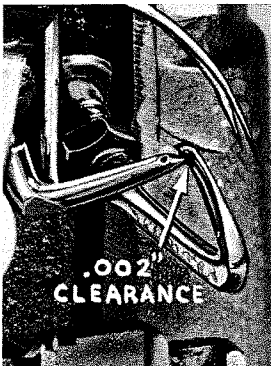
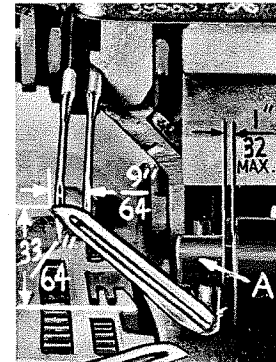

Fig. 9
Fig. 10
By adjusting looper holder in or out of upper looper shaft and by turning the looper around its shank, set upper looper point to cross lower looper to the left of the lower looper eye with 0.002 to 0.004 clearance (Fig. 9).
Next, turn the handwheel until upper looper is at the left end of its travel. Check dimensions of upper looper point with respect to the right needle and throat plate (Fig. 10). If resetting is necessary, do it by moving the upper looper holder (A, Fig. 10). Figure 10 represents the dimensional setting.
Dimension  $33/64$  inch is increased by turning upper looper holder counter-clockwise looking from left end of machine. Dimension  $9/64$  inch is increased by pulling upper looper holder left, out of the upper looper shaft. A maximum dimension of  $1/32$  inch (Fig. 10) should be maintained between the upper looper holder and the upper looper shaft. After these changes are made, it may be necessary to turn the upper looper around its shank slightly to maintain the condition shown in Fig. 9.
Check setting to avoid interference between upper looper and needle on needle downstroke. If needle rubs the back of upper looper, pull looper out of its holder slightly and rotate looper a short distance counter-clockwise, looking from left end of machine. Reset to maintain dimensions of Fig. 9, 10, 11.
If it becomes necessary to move looper thread pull-off (R) be sure to take up all end play in needle drive shaft before tightening. If upper looper is located so that it is higher over throat plate than recommended in (Fig. 10), the purl will tend to form near top edge. If upper looper is too low, the purl will form nearer bottom edge.